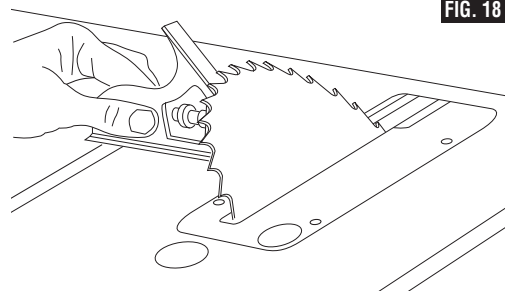

FIG. 18
7. Place a combination square on the table with one end of square against the blade as shown (Fig. 18), and check to see if the blade is 45 degrees to the table. If the blade is not 45 degrees to the table, loosen the blade tilt lock handle **1**, loosen 45 degree adjustment screw **8**, loosen 45 degree bevel stop cam **9** and push the elevation wheel until the blade is 45 degrees to the table.